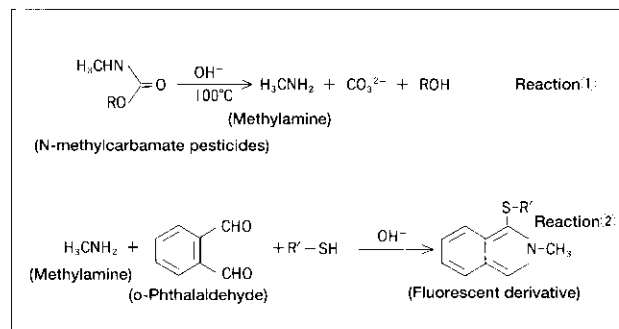

Fig.1 Derivatization Reaction Sequence for N-Methylcarbamate Pesticides
N-methylcarbamate pesticides are characteristic of the structure as shown in Figure 1. These compounds, when heated in an alkaline solution, undergo hydrolysis, generating methylamine (reaction ①). Methylamine, which is a primary amine, can be derivatized into a fluorescent substance by using o-phthalaldehyde (OPA) reagent (reaction ②).